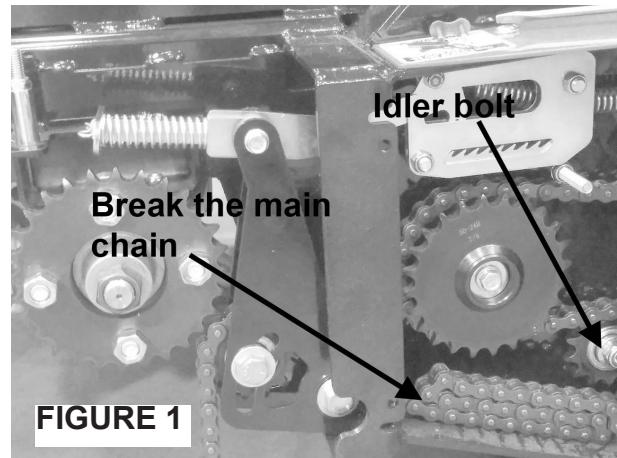

FIGURE 1
Depth stops set the maximum aeration depth. Maximum aeration depth may be adjusted by changing the hole the depth stop pin is in. Typical aeration depth is 2 1/2 - 3" (60-75 mm). Pins **J1** on both sides of the machine need to be in the same hole so the tine frame is not twisted during operation. **Figure 1**
3. Break the main chain and leave it lying on the machine. **Figure 1**
3. Break the main chain and leave it lying on the machine. **Figure 1** Loosen the idler bolt and back the idler off.